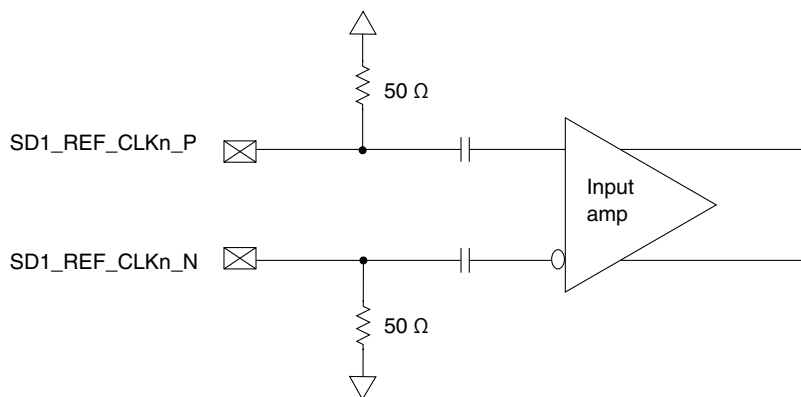

Figure 75. Receiver of SerDes reference clocks
- The SD1_REF_CLKn_P and SD1_REF_CLKn_N are internally AC-coupled differential inputs as shown in Figure 75. Each differential clock input (SD1_REF_CLKn_P or SD1_REF_CLKn_N) has on-chip 50- Ω termination to SGNDn followed by on-chip AC-coupling.
- For an external DC-coupled connection, as described in Figure 75, the maximum average current requirements set the requirement for average voltage (common mode voltage) as between 100 mV and 400 mV.